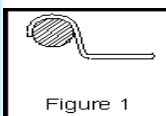

Figure 1
1. **CHECK GASKET** – to ensure cover gasket is properly fitted into cover groove (see Fig. 1 or 2).